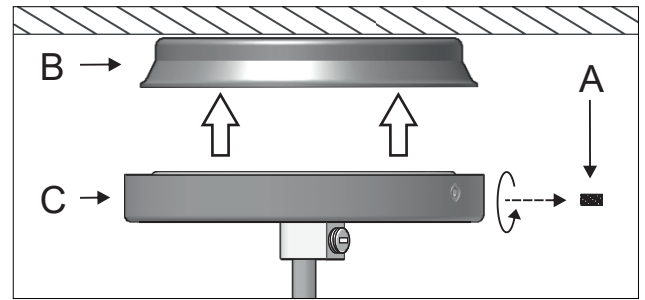

Figure 4
4 - Attach the canopy (C) back and tighten the side stud (A) previously removed. Figure 4.